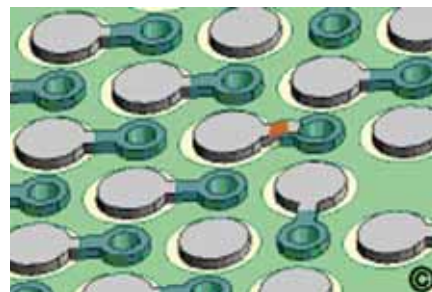

Figure 5 Scrape solder off a small length of connecting circuit exposing the copper.
14. Gently place the bonding tip directly onto the new BGA pad. Apply pressure as recommended in the manual of the repair system or repair kit for an additional 30 seconds to fully bond the pad. After the bonding cycle remove the tape used for alignment. The new pad is fully cured. Carefully clean the area and inspect the new pad for proper alignment. (See Figure 5.)